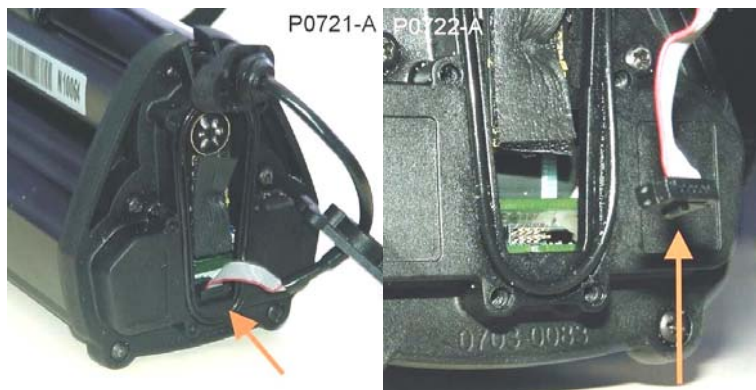

Figure 35: Removal of Wiring Loom from Electronics Pack
- Gently unplug the wiring loom plug from the electronics pack printed circuit board. (Figure 35)